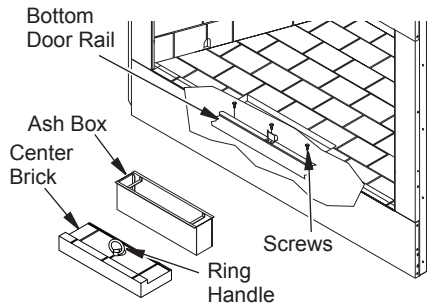

Figure 21 - Installing Bottom Door Frame
3. Remove center brick by pulling ring handle (see Figure 21).
5. Remove three screws located at front of firebox (see Figure 21).